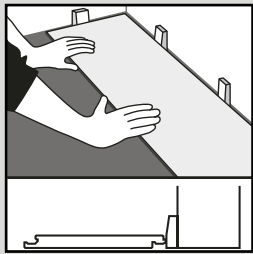

Fig. 1
- Starting with a full plank/tile along the wall, calculate how many widths there are across the room. If this means there will be a row of narrow planks/tiles along the opposite wall, cut the first row accordingly. Install this product with the tongue side/cut edge facing the wall. Install 5 mm spacers between the plank/tile and wall (Fig. 1).